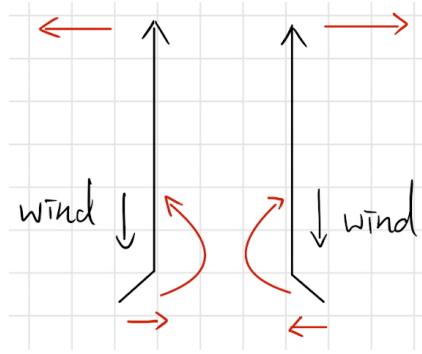

Figure 4: The relation between rudder positions and the aircraft yaw direction.
(2) **Rudder:** It is used to control the aircraft in the **yaw** axis. And the corresponding yawing direction of the aircraft relative to the rudder's position are shown in Figure 4.